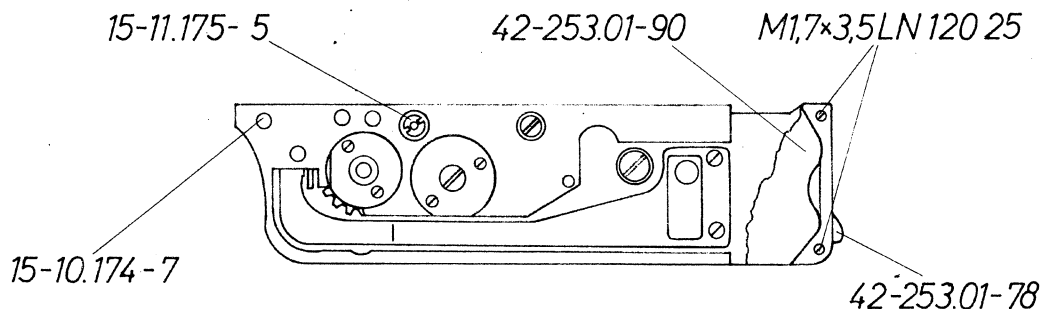

Fig. 22.1
2.23 If the end position of the first shutter blind is incorrect, unscrew the two screws M 1.7 x 3,5 LN 120 25 and the screw 15-10.174-7 (see fig. 22.1) with the 2.5 mm. dia. screw driver. Remove the cover plate 42-253.01-90 and the locking plate 42-253.01-78. Use the spanner 42-253.01-76 J2 to turn the nut 15-11.175-5 to the left or right until the end position of the first shutter blind corresponds to that specified in step 2.22. If the right-hand slot of the template indicates that the second shutter blind already appears in the picture area of the camera, re-check the ⚡ shutter speed (see sheet 13 of the Servicing Instructions for the Leica M 2).